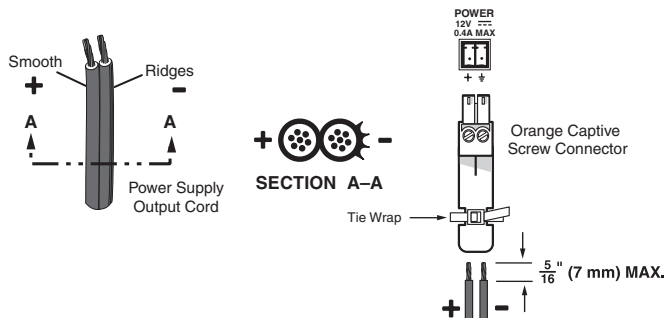

Figure 2-8 — Wiring the power connector
- ① **Power connection point** — This dedicated female, 3.5mm, 2-pole captive screw connector enables connection of the 12 VDC external power supply. Wire the power supply cord into the supplied male orange connector as shown in figure 2-8.
CAUTION Power supply voltage polarity is critical. Incorrect voltage polarity can damage the power supply and the SCS 300. Identify the power cord negative lead by the ridges on the side of the cord (figure 2-8).